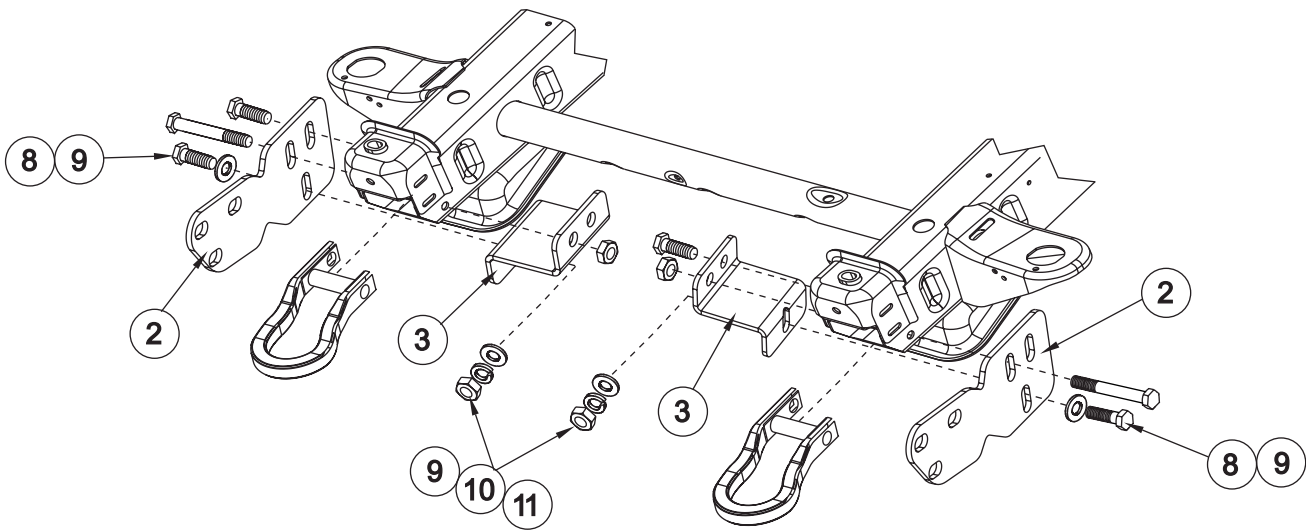

FIGURE 1
- STEP 3. Slide brackets in through the backside of the tow hook pockets. Align upper slots on brackets with holes on the outside of the frame ends. Secure brackets to bracket braces with with included M12 yellow fasteners. Reinstall tow hooks. Secure with factory hardware. **SEE FIGURE 1** Leave loose. It may be necessary to trim the fascia around the tow hook area in order to properly align the brackets. **SEE FIGURE 3.**